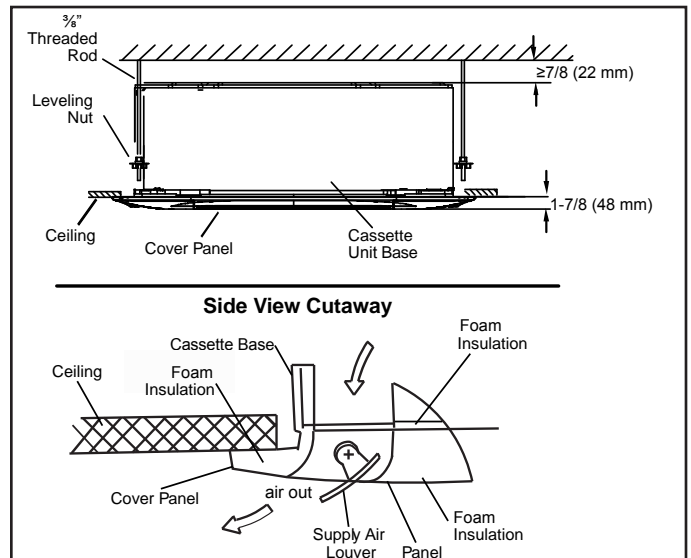

Figure 25. Cover Panel In Place
8. Use the provided screws to secure the cover panel to the unit base. Continue to tighten the cover panel securing screws until the insulation between the cover panel and the cassette base has been compressed to approximately 1/4" (6 mm). The cover panel must form a seal with the ceiling and the cassette base around the entire perimeter of the unit. See Figure 25.